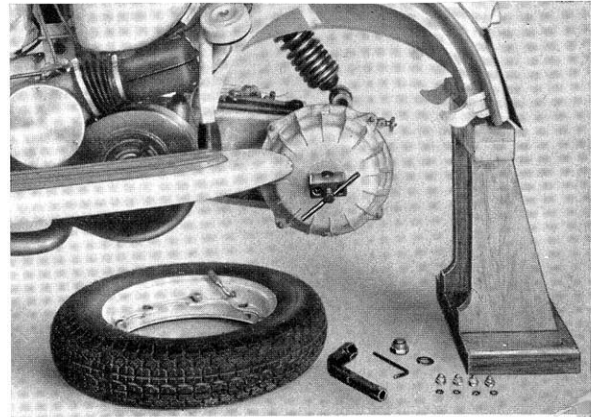

Fig. 12
NOTE - To remove the rear wheel and shock absorber the rear of the machine must be raised and rested on a support (wooden or otherwise) as used in Operation 15 (see figure 12).
- 16 To remove rear wheel: unscrew dome nuts and withdraw rim, unscrew the wheel nut (27mm spanner) and withdraw wheel hub by means of extractor 59826 (See Fig. 12).